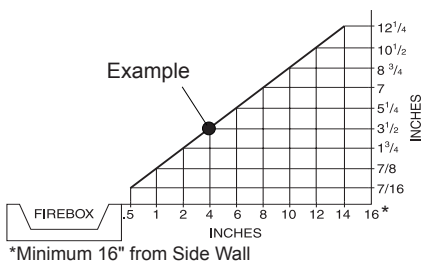

Figure 4 - Minimum Clearance for Combustible to Wall
- A. Clearances from the side of the fireplace cabinet to any combustible material and wall should follow diagram in Figure 4.
Example: The face of a mantel, bookshelf, etc. is made of combustible material and protrudes 3 1/2" from the wall. This combustible material must be 4" from the side of the fireplace cabinet (see Figure 4).